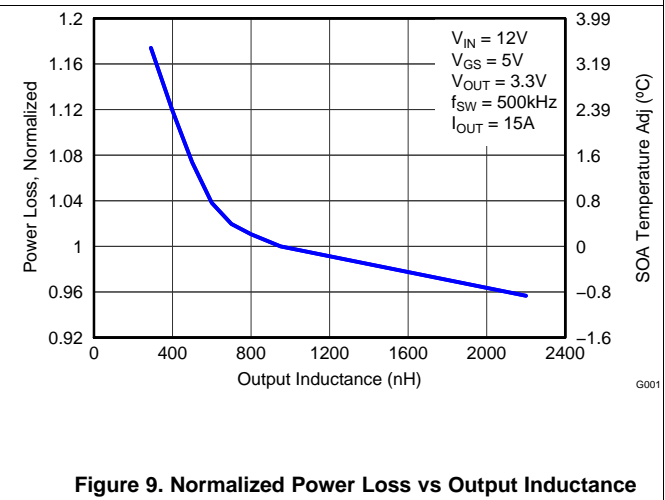

Figure 9. Normalized Power Loss vs Output Inductance
The typical power block system characteristic curves (Figure 1 through Figure 9) are based on measurements made on a PCB design with dimensions of 4 in (W) × 3.5 in (L) × 0.062 in (H) and 6 copper layers of 1-oz copper thickness. See Applications for detailed explanation.  $T_A = 125^\circ\text{C}$ , unless stated otherwise.
- Normalized power loss for output inductor  $\approx$  1.03 (Figure 9)
- SOA adjustment for output inductor  $\approx$  0.8°C (Figure 9)